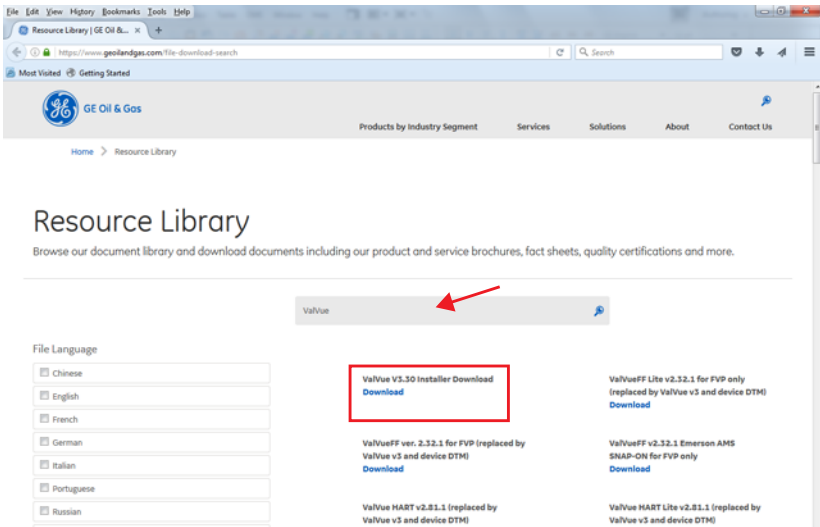

Figure 25 Download Center: Search for Valve 3
1. Go to the *Resource Library* (<https://www.geoilandgas.com/file-download-search>) and enter *ValVue* in the search field (arrow in Figure 25).
The results appear (red box in Figure 25).